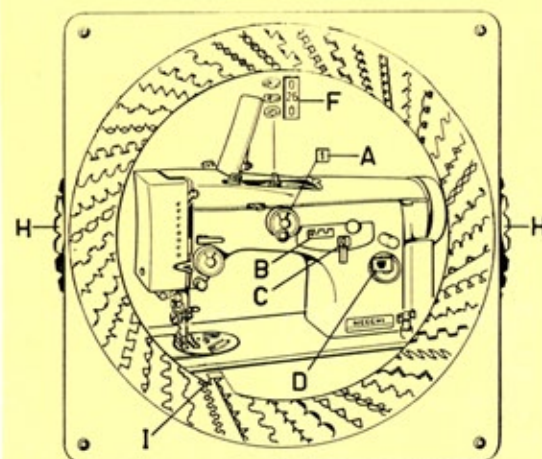

Fig. 78
- Bring desired pattern in correspondence with slot «I» by turning knurled dial «H» (fig. 78)